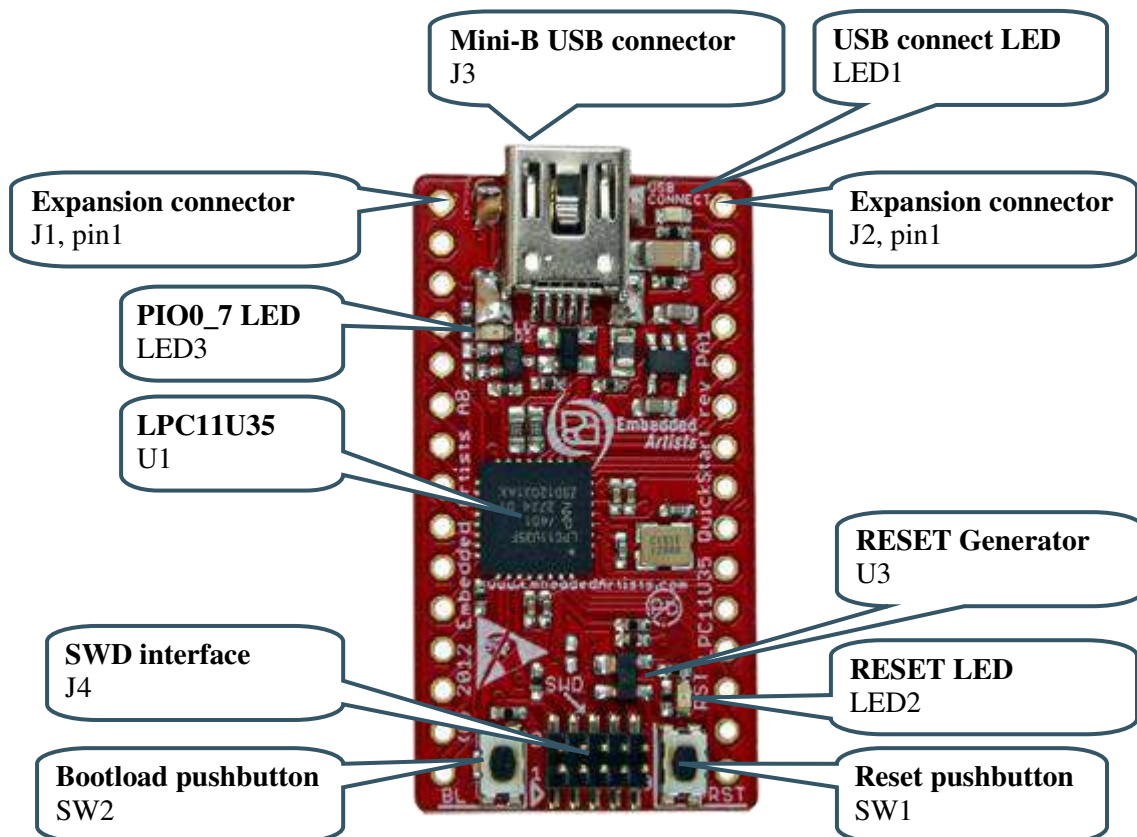

Figure 2 – Main Components on LPC11U35 QuickStart Board
There are two expansion connectors, J1 and J2. They both have 15 positions and are placed at the board edges. See *Figure 2* on page 13 for details about J1 and J2 placement on the board. All programmable pins of the LPC11U35 are available on the expansion connectors; see the table below for details.
Figure 2 below illustrates where the main components in the design can be found on the board.
1. Press both the bootloader push-button (SW2) and the reset push-button (SW1). See *Figure 2* on page 13 for details about where to find the two push-buttons.